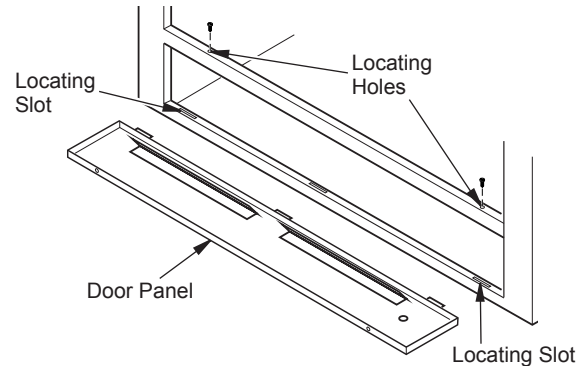

Figure 1 - Removing Lower Door Panel
2. Remove 2 screws located at top of lower door panel. Slide door panel forward and up to remove tabs on panel from locating slots in firebox (see Figure 1).